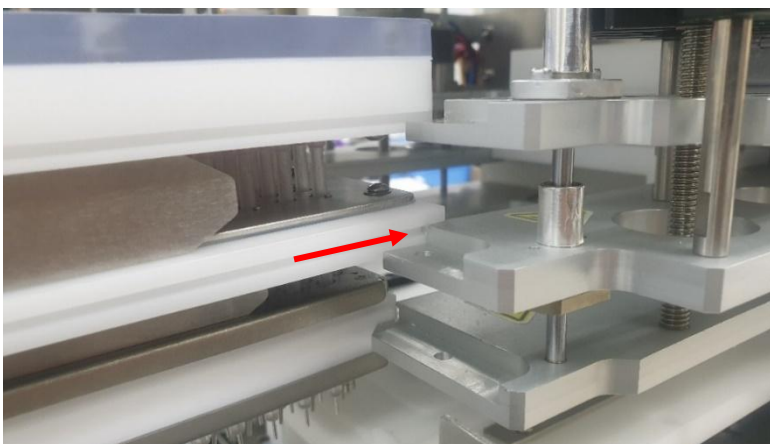

Figure 3-7: Align Fluidic Head to Machine (step 1)
9. Turn the fluidic head reservoir-side up and align the center block of the fluidic head to the machine (Figure 3-7 red arrow).